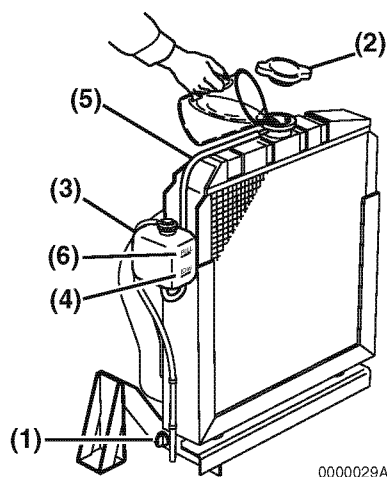
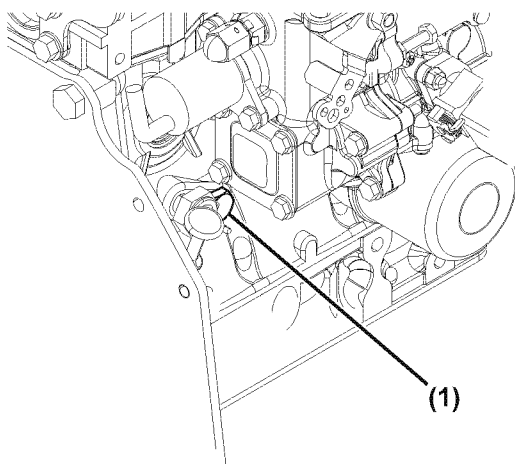

Figure 4-7
Figure 4-8
1. Check to be sure the radiator drain plug is installed and tightened or the drain cock (Figure 4-7, (1)) is closed. Also make sure the coolant drain plug (Figure 4-8, (1)) in the cylinder block is closed.
2. Remove the radiator cap (Figure 4-7, (2)) by turning it counterclockwise about 1/3 of a turn.
4. Reinstall the radiator cap (Figure 4-7, (2)). Align the tabs on the back of the radiator cap with the notches on the engine coolant filler port. Press down and turn the cap clockwise about 1/3 of a turn.
5. Remove the cap of the reserve tank (Figure 4-7, (3)), and fill it to the LOW (COLD) mark (Figure 4-7, (4)) with engine coolant. Reinstall the cap.
6. Check the hose (Figure 4-7, (5)) that connects the reserve tank (Figure 4-7, (3)) to the radiator. Be sure it is securely connected and there are no cracks or damage. If the hose is damaged, engine coolant will leak out instead of going into the reserve tank.
7. Run the engine until it is at operating temperature. Check the level of engine coolant in the reserve tank. When the engine is running and the engine coolant is at normal temperature, the coolant level in the tank should be at or near the FULL (HOT) mark (Figure 4-7, (6)). If the engine coolant is not at the FULL (HOT) mark (Figure 4-7, (6)), add additional engine coolant to the reserve tank to bring the level to the FULL (HOT) mark.